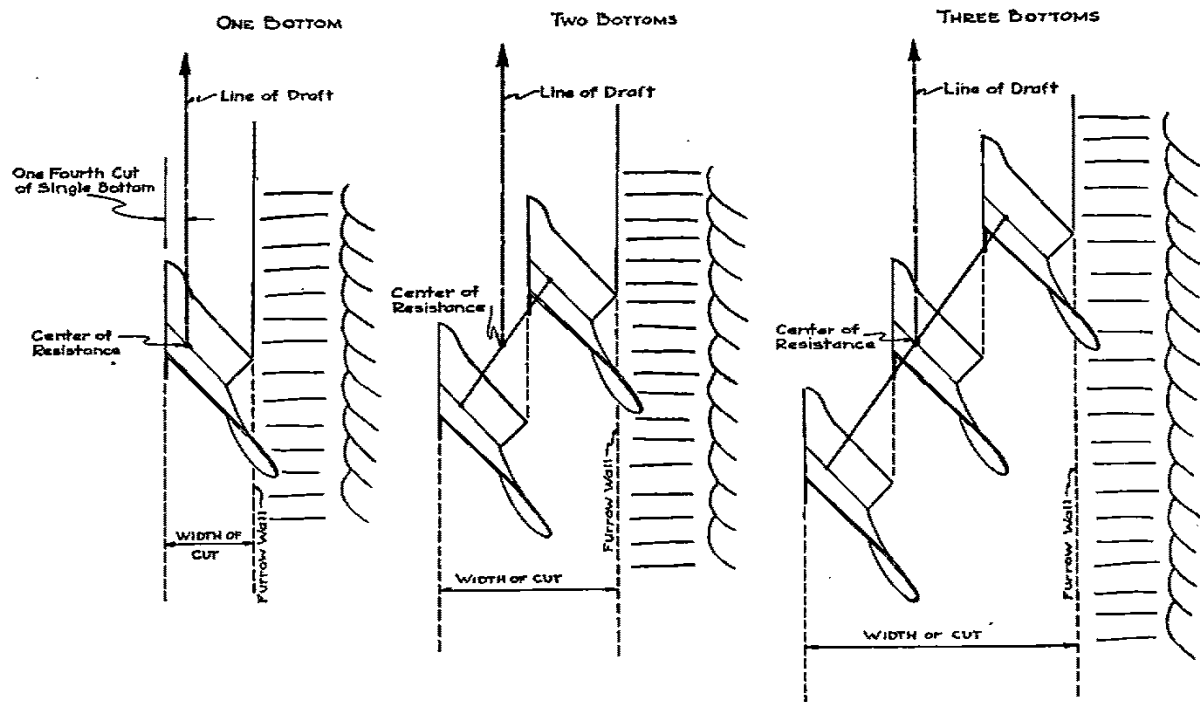

Fig. 8. Diagram showing approximate location of center of resistance on one-, two- and three-bottom plows.
For purposes of plow adjustment the **CENTER OF RESISTANCE** of a one-bottom plow is located one-fourth of the width of the plowshare to the right of the shin or landside and about on the line where the share joins the moldboard. For plows having two or more bottoms, the center of resistance is midway on a line connecting center points of resistance for all bottoms (fig. 8)..
**Step 4. Locate center of resistance on plow (fig. 8).**